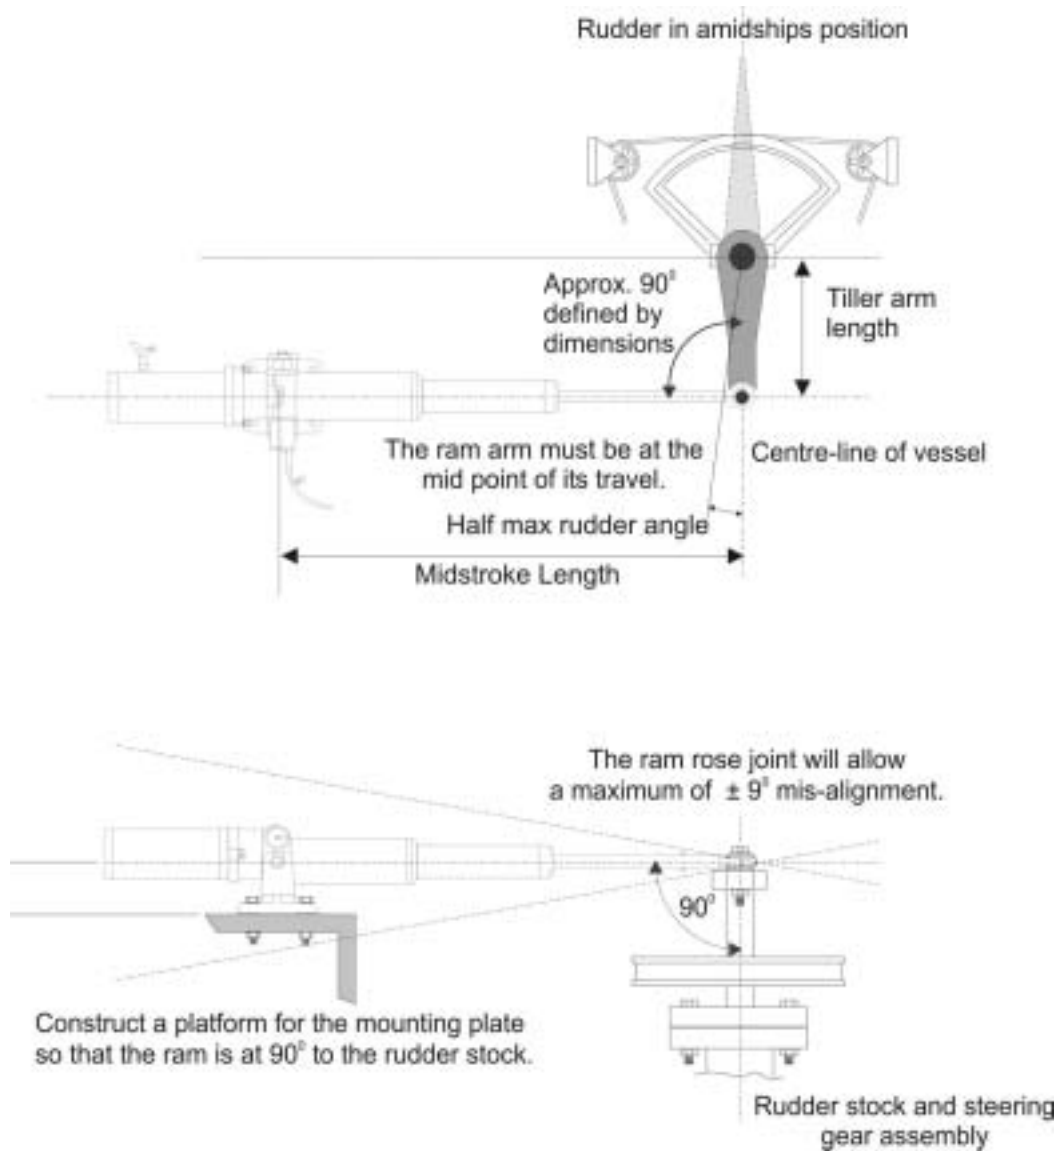

Fig 5.5 Typical Ram Drive Unit Layout
- ⚡ The angle between the ram arm and the tiller arm should be as shown in Figures 5.5 and 5.6.